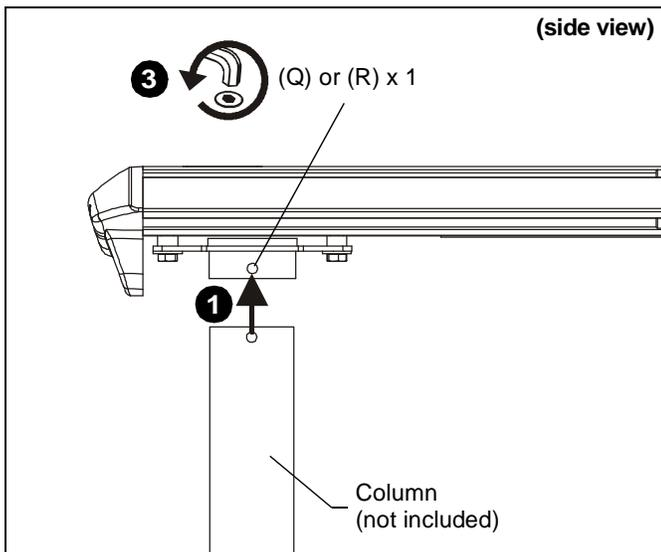

Figure 16
1. Line up mounting holes on column (not included) with corresponding hole on WMA2S mounting plate. (See Figure 16)